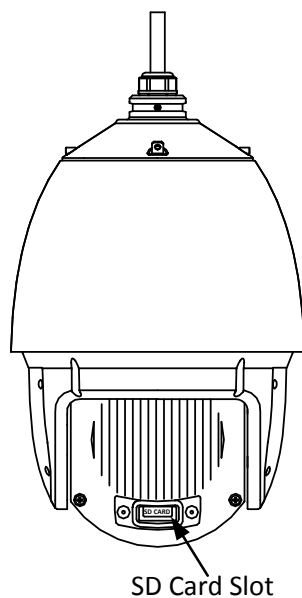

Figure 1-19 SD Card Slot
2. Remove the cover on the back of the speed dome as shown in Figure 1-19. Insert the SD card to the SD card slot and install the cover back.